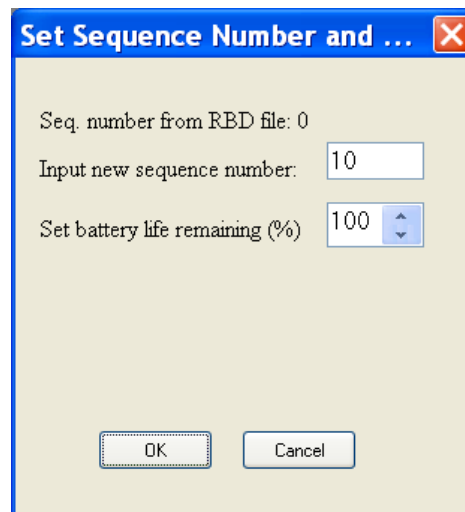

Figure A.6 Set Sequence Number
5. Insert the sequence number and remaining battery life (see figure A.6). Note that if the sequence number is set too low, data will be overwritten.